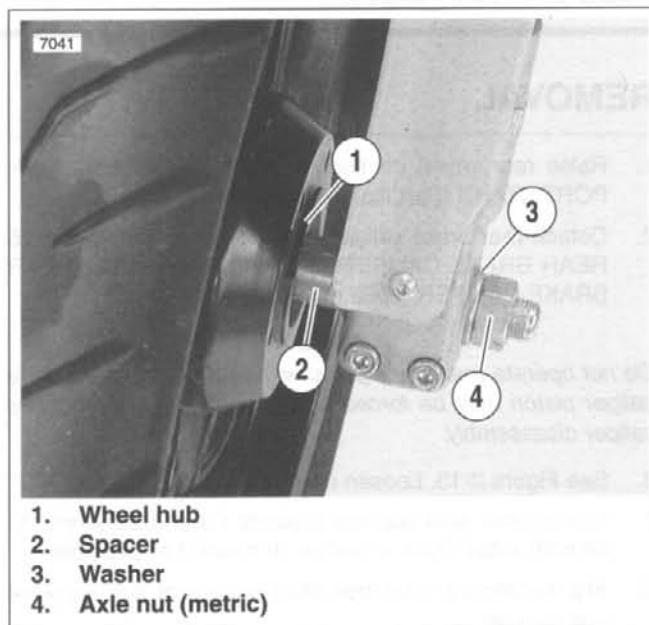

Figure 2-12. Spacer
- e. See Figure 2-12. Align spacer (2) between wheel hub and fork. Push axle through spacer and left fork leg.
3. Install axle nut (4).
- b. Install washer (3) and axle nut (4) (metric) over threaded end of axle.